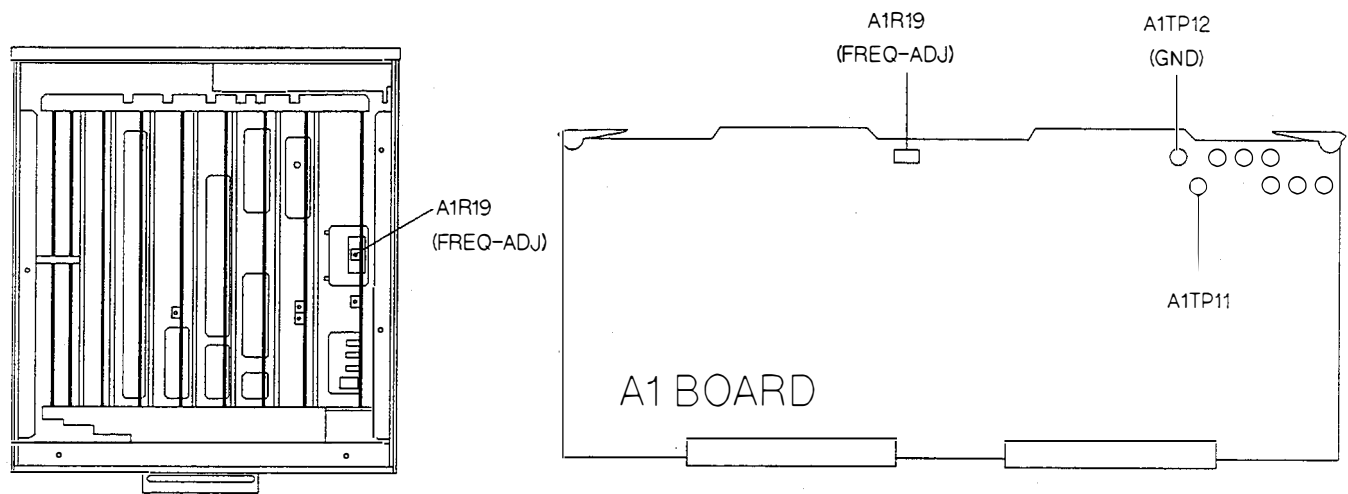
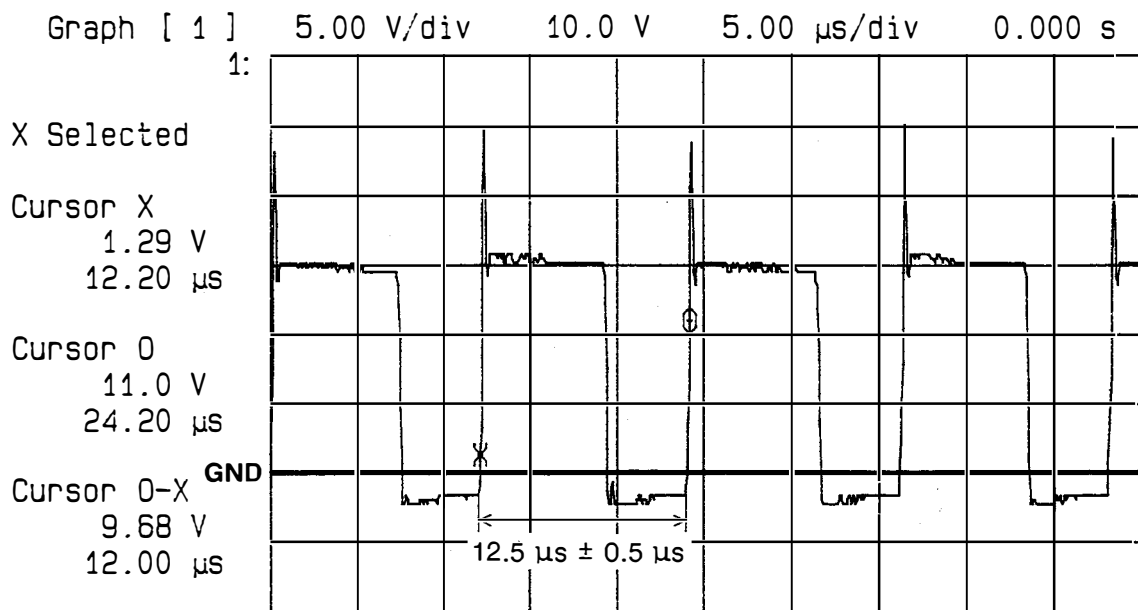

Figure 2-4. Power Supply Frequency Adjustment Location
Figure 2-5. Switching Waveform
4. Connect the probe's ground lead to A1TP12 (**GND**). Then connect the probe's tip to A1TP11. Figure 2-4 shows the location of TP11 and TP12.
7. Adjust A1R19 (**FREQ-ADJ**) until the period (T), of the waveform, is 12.5 μ s $\pm$ 0.5 μ s, as shown in Figure 2-5. Figure 2-4 shows A1R19's location.